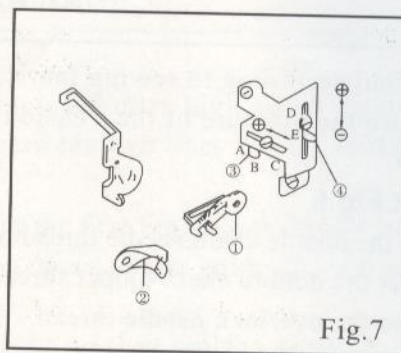

Fig.7
## (3) Loper thread control.Fig.7